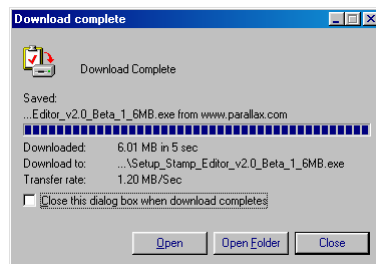

Figure 1-13
- ✓ When the download is complete, leave the window shown in Figure 1-13 open while you skip to the next section - Activity #2: Installing the Software.